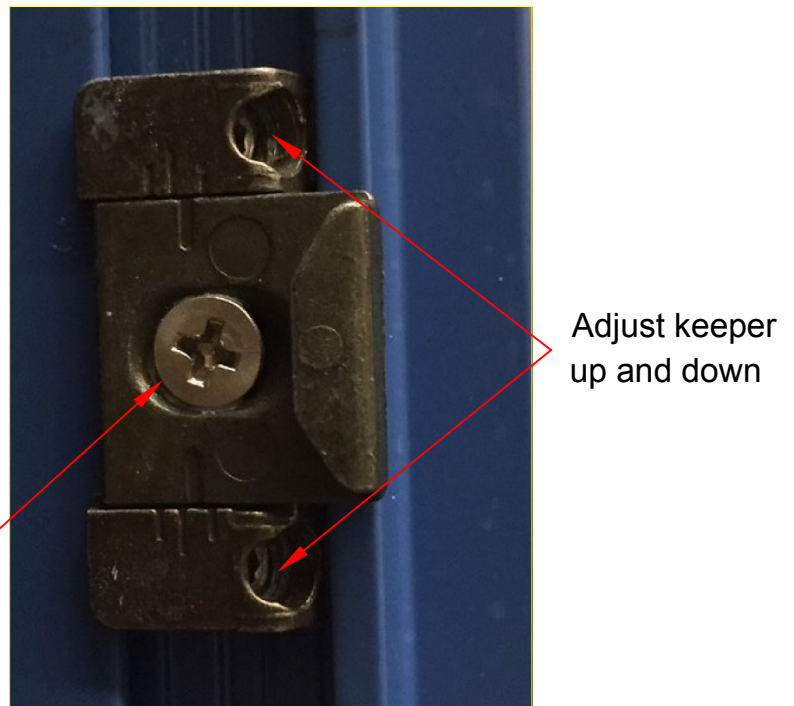

Figure 18
- C. If the keepers need adjusted up or down (or left or right), loosen the 2.5mm hex screws and slide as needed. Re-tighten the screws. (See figure 18).
- F. If the panels need tightened (more compression on weatherstrip) or loosened (lighter handle pressure) to the frame, loosen the Phillips screw and adjust the keeper as needed. Re-tighten the screw. (See figure 18).